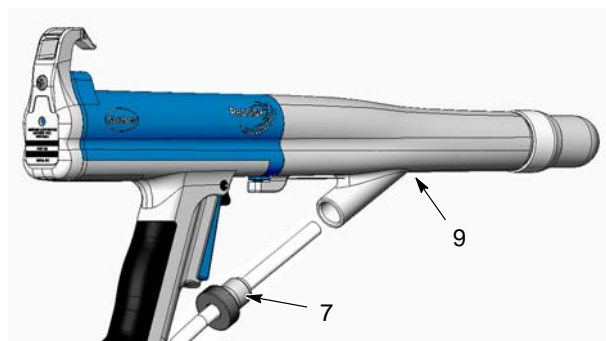

Figure 15 Disconnecting the Powder Tubing
2. See Figure 15. Unscrew the lock knob (7) and pull the powder tubing out of the adapter (9).
8. See Figure 15. Push the powder tubing into the adapter until it bottoms out against the powder tube. Screw the lock knob into the adapter and tighten until snug.
- See Figure 15. Unscrew the lock knob (7) and pull the powder tubing out of the adapter (9).
- See Figure 15. Push the powder tubing into the adapter until it bottoms out against the powder tube. Screw the lock knob into the adapter and tighten it snugly.
8. See Figure 15. Push the powder tubing into the adapter until it bottoms out against the powder tube, then thread the lock knob into the adapter and tighten it snugly.